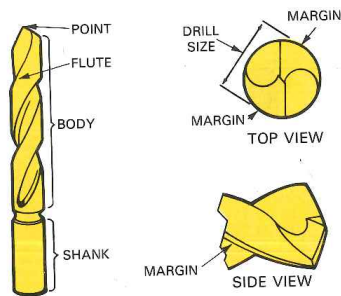

Fig. 4-9. Study basic parts of drill bit. (Florida Dept. of Voc. Ed.)
*Twist drills* or *drill bits* are used to drill holes in metal and plastic parts. They fit into either an electric or air powered drill, Fig. 4-9. Drill bits are commonly made of either carbon steel or high speed steel. High speed steel is better because of its resistance to heat. It will not lose its hardness when slightly overheated.